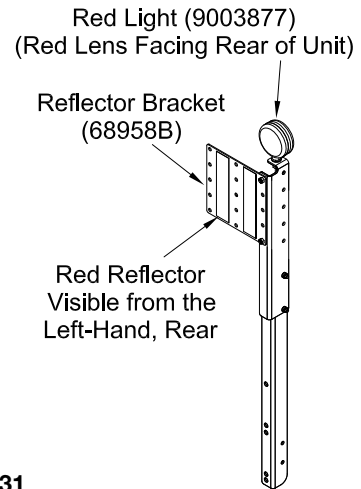

FIG. 2-31
4. Left-hand center reflector assembly is a reflector bracket (68958B) assembled to the angle (69664B). Assemble reflector bracket and red light as shown in FIG. 2-31.